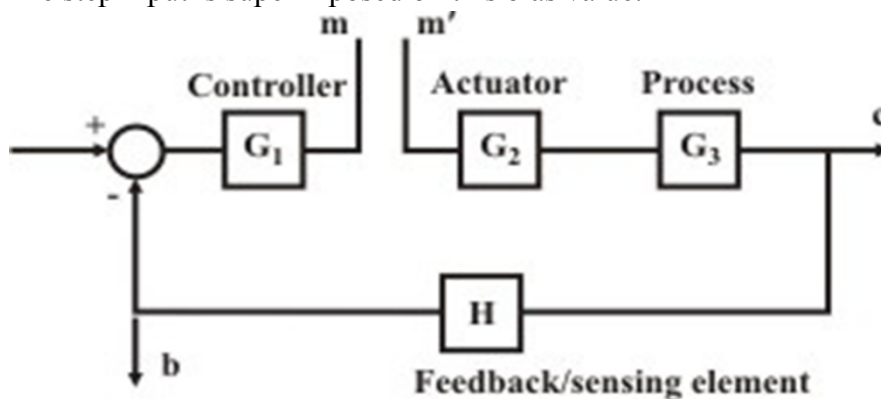

Fig. 2 Reaction curve technique for controller tuning.
- The closed loop system is broken as shown in Fig.2; a step input is applied at  $a$ , output is measured at  $b$ .
$M, L$  and  $K$  are measured. Let us define the following terms corresponding to Fig. 2: